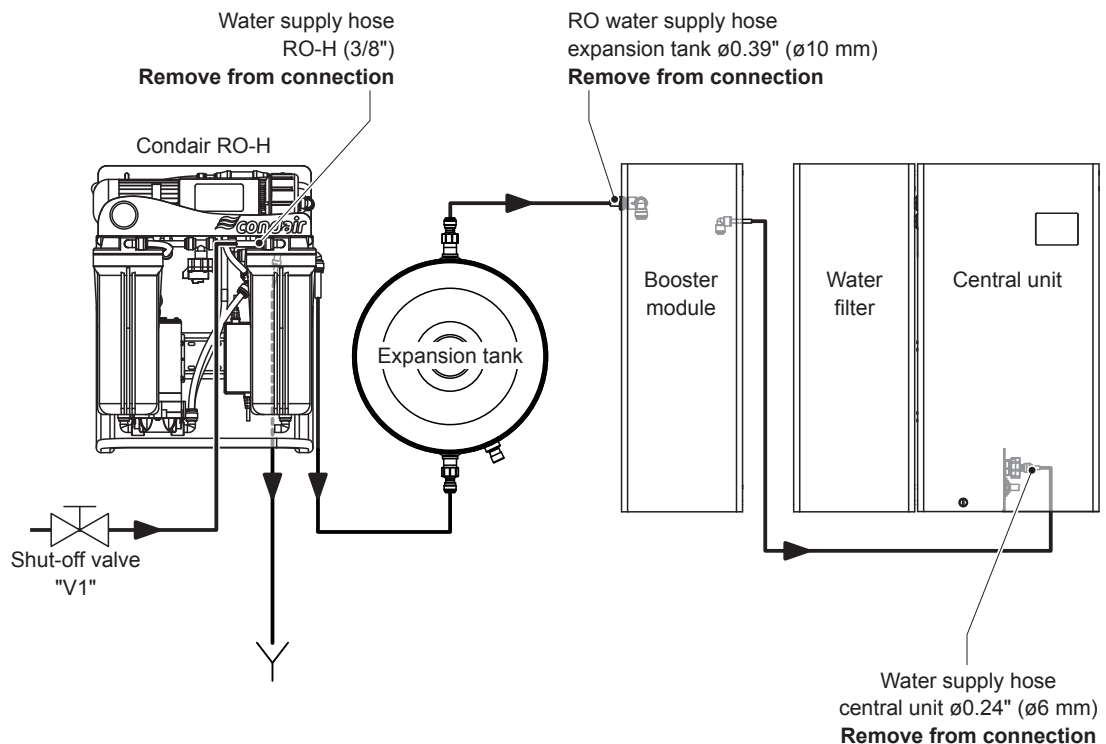

Fig. 72: Removing the hoses
2. Make sure that the water system is depressurized (see Section 7.1.5.1). Then disconnect the hoses marked in Fig. 72.
23. Open the shut-off valve "V1" in the water supply line to the reverse osmosis unit Condair RO-H (see Fig. 72). The filter housings are filled and the system is pressurized.